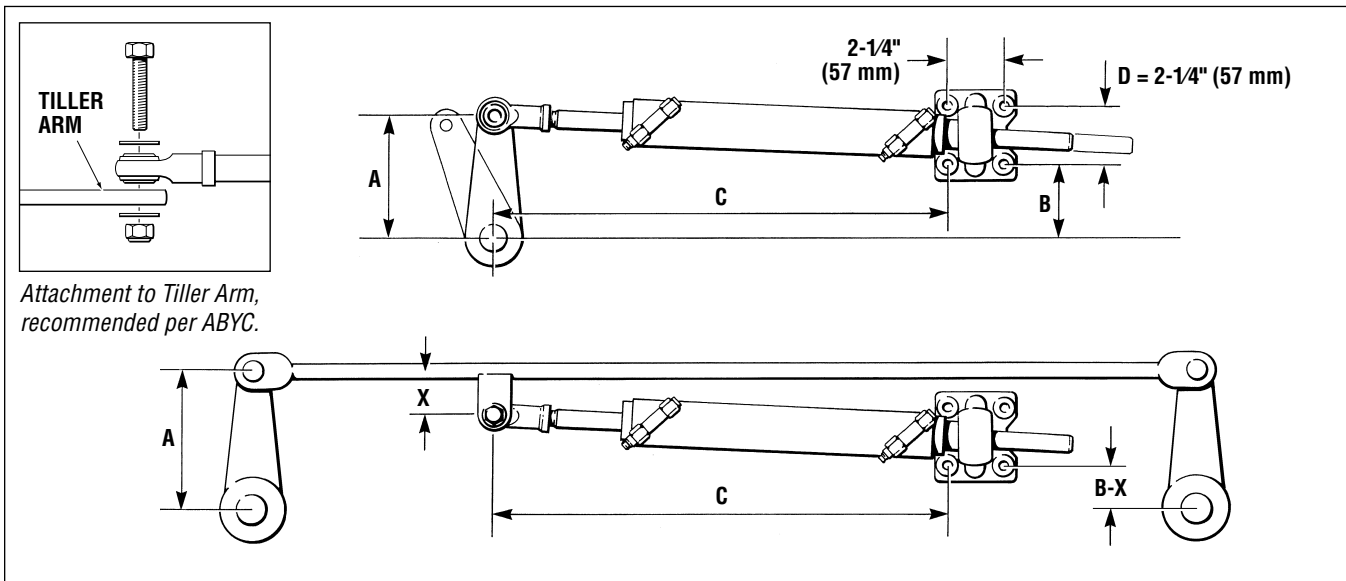
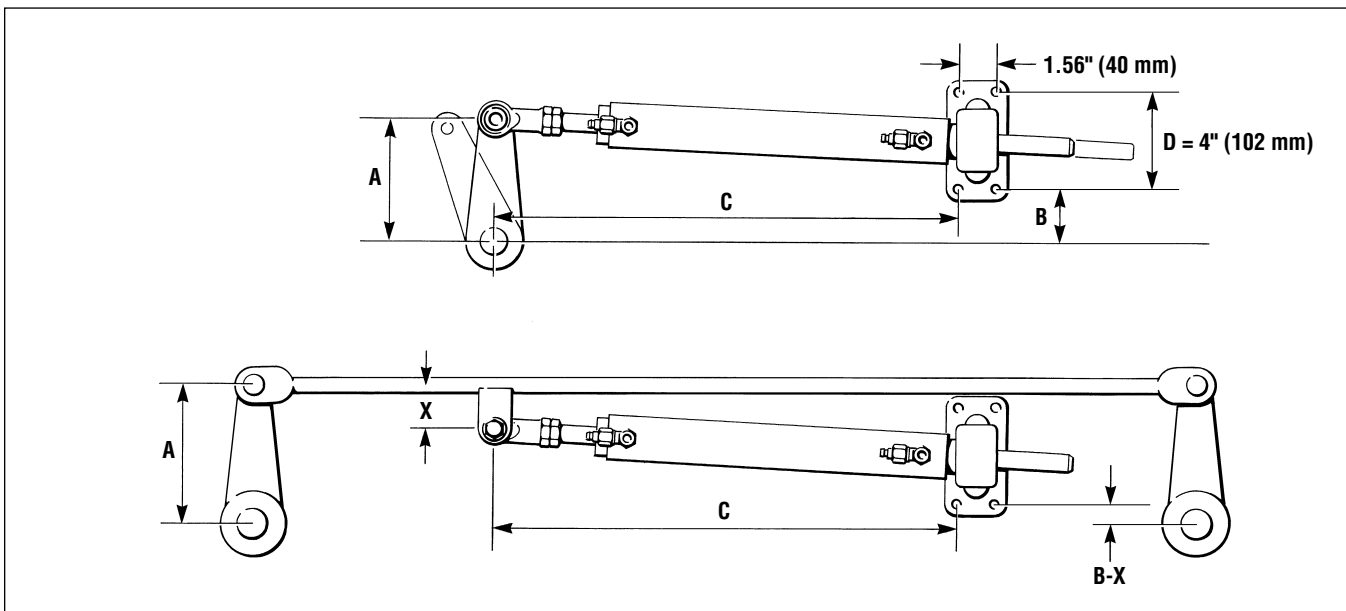

Figure 3.
Figure 4.
- a) **Tiller arm length is not set:** Determine the tiller arm length (dimension 'A') and foot bracket location (dimensions 'B' and 'C') from table 1. Figure 3 and figure 4 illustrate how to use these dimensions to locate the cylinder.
D is the bracket hole spacing (see figure 3 and figure 4)